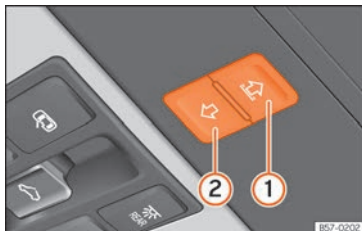

Fig. 105 On the interior roof lining: sunshade blind buttons.
Buttons **»» Fig. 105 ①** and **②** have two levels. The first level opens or closes the sun blind fully or partially.
- *Sun blind*: within approximately 5 seconds of activating the roll-back function, press and hold button »» Fig. 105 Ⓚ until the blind is fully closed.